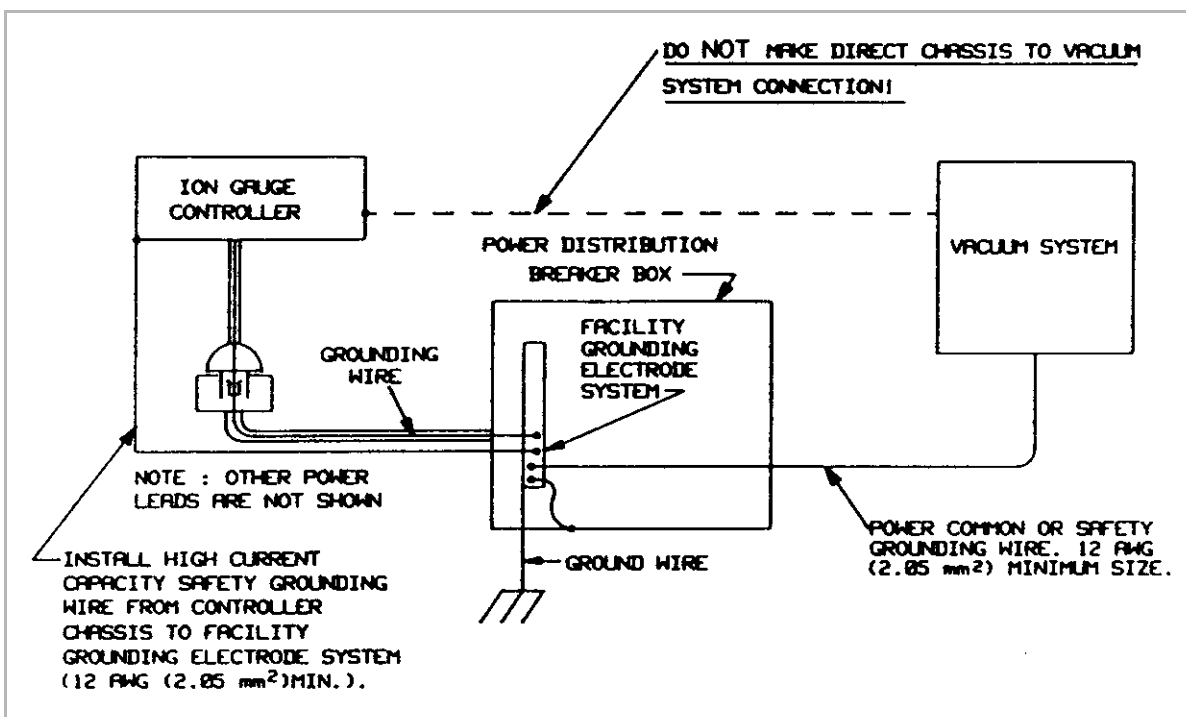

Figure 1-9 Correct System Grounding.
4. If the voltage change in Step 3 is greater than 17% due to the placement of the shunt, it complicates the measurement. The commonality of the grounds may be satisfactory and the coupling poor, or the commonality could be poor! Your electrician should be asked to check the electrical continuity between these two ground systems. The placement of a second ground wire (dashed line in Figure 1-9 on page 26) between the vacuum chamber and the power supply chassis is NOT a safe answer, for large currents could flow through it. Professional help is recommended.